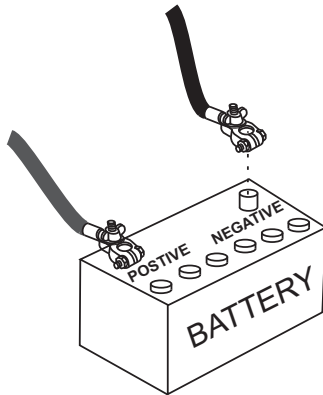

Figure 19. Battery Connections
- Connect the negative battery cable (BLACK) to the negative post on the battery (Figure 19).